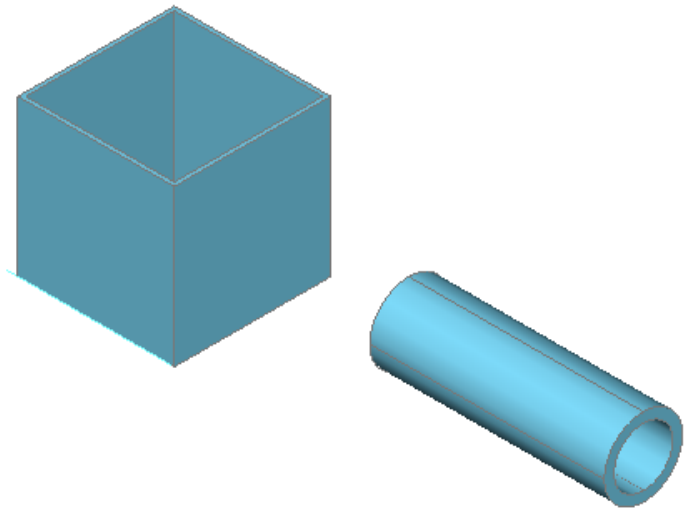

Figure Step 7
Step 7 Orbit the model to check for completeness. Set the current view to SE Isometric. (Figure Step 7)